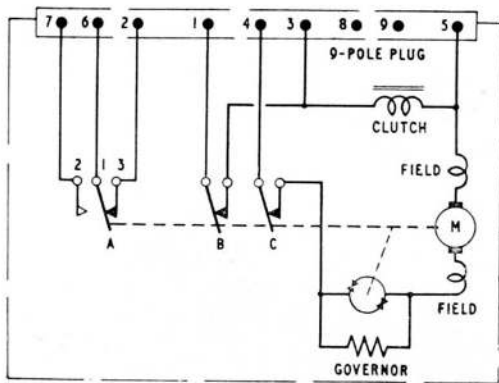

Fig. 2. Circuit diagram
8. A circuit diagram of the switch is given in fig. 2, where the contacts are shown in the de-energized position.